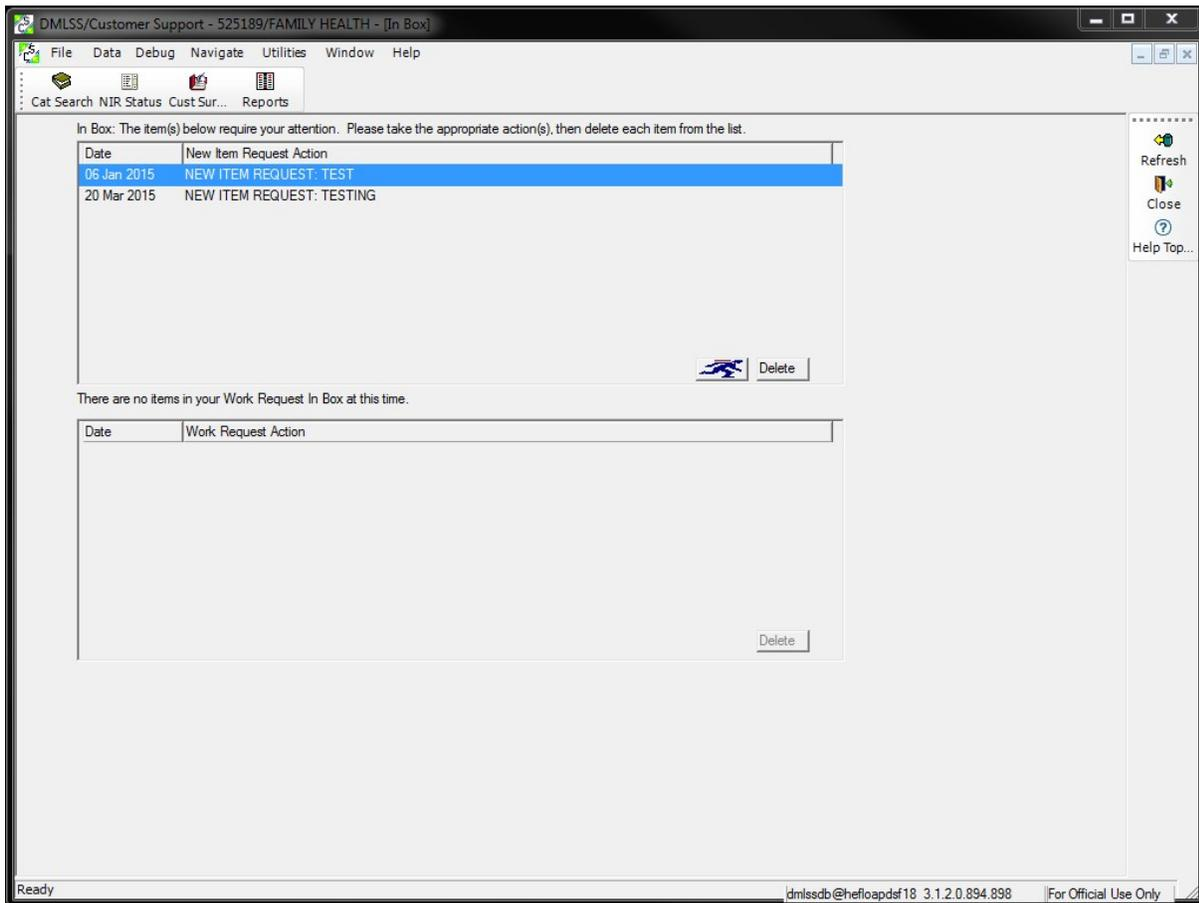

Figure 2. Customer Support Inbox, New Item Request
(1) Choose Customer. Choose Customer provides a capability, via a drop-down menu, to select a specific customer.
(2) Inbox. Customer Service Inbox messages or pending actions are generated as a result of customers initiating a NIR or work request (see Figure 2).